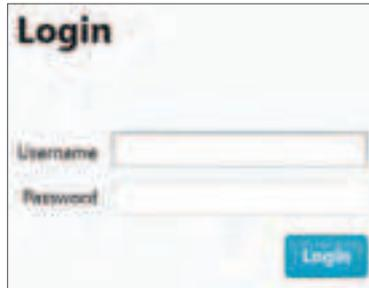

Figure 90: CCM – Login Screen
- 1 Start **CCM**. The **Login** dialog box (Figure 90) is displayed.